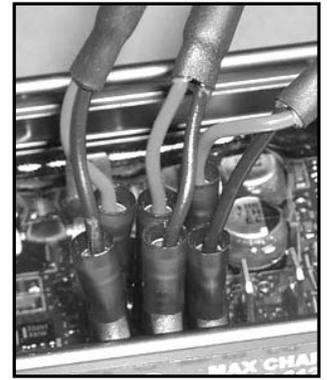

Figure 4 - Proper attachment of optional battery and alternator temp sensors at the regulator.
1. Attach the positive and negative wires to the Alternator Temperature Sensor terminals on the MC-612 (See Figure 4). Observe proper polarity at the terminals.
2. While observing polarity, connect the battery temperature pins to the positive and negative terminals as shown on Figure 4.